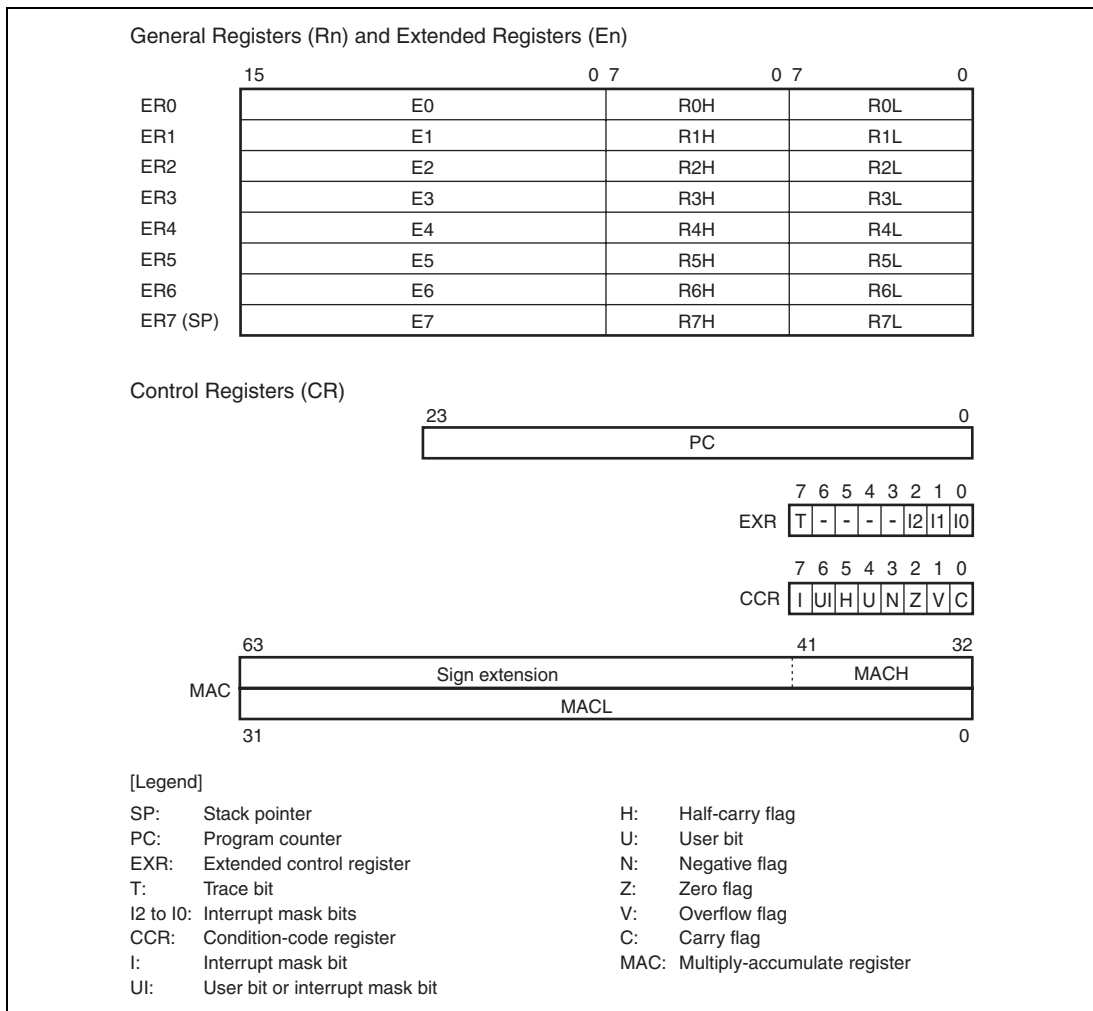

Figure 2.6 CPU Registers
The H8S/2600 CPU has the internal registers shown in figure 2.6. There are two types of registers; general registers and control registers. The control registers are a 24-bit program counter (PC), an 8-bit extended control register (EXR), an 8-bit condition code register (CCR), and a 64-bit multiply-accumulate register (MAC).